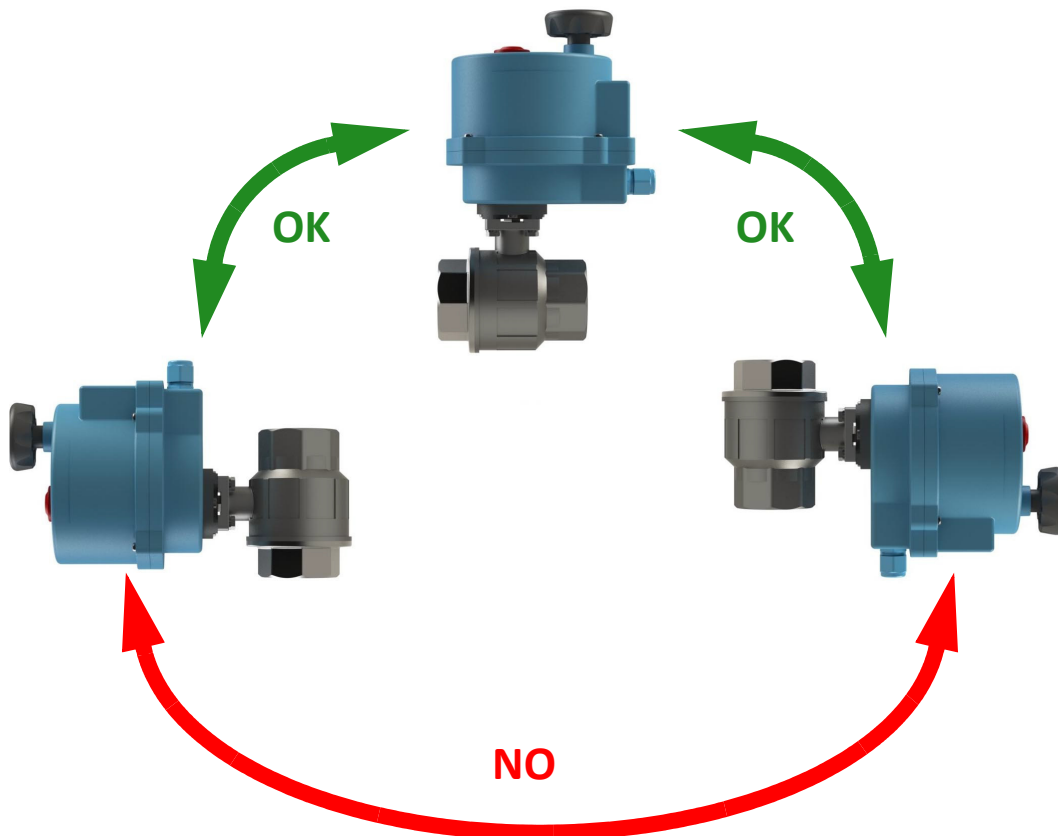

Figure 3: Acceptable Valve Body and Actuator Orientation
- The preferred orientation of the valve stem and actuator is upright (vertically). However, where space restrictions dictate, the valve assembly can be mounted diagonally or horizontally (see Figure 3).